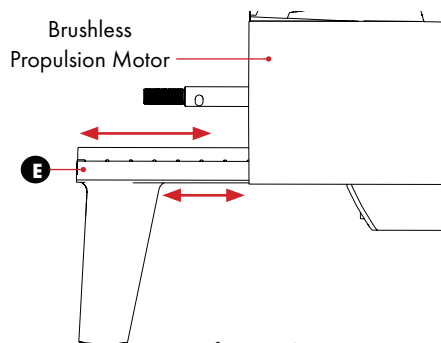

Figure 3
STEP 5 Using a **Rubber Mallet**, tap the **E** from the track it rests in on the **Brushless Propulsion Motor**. **FIG 3**